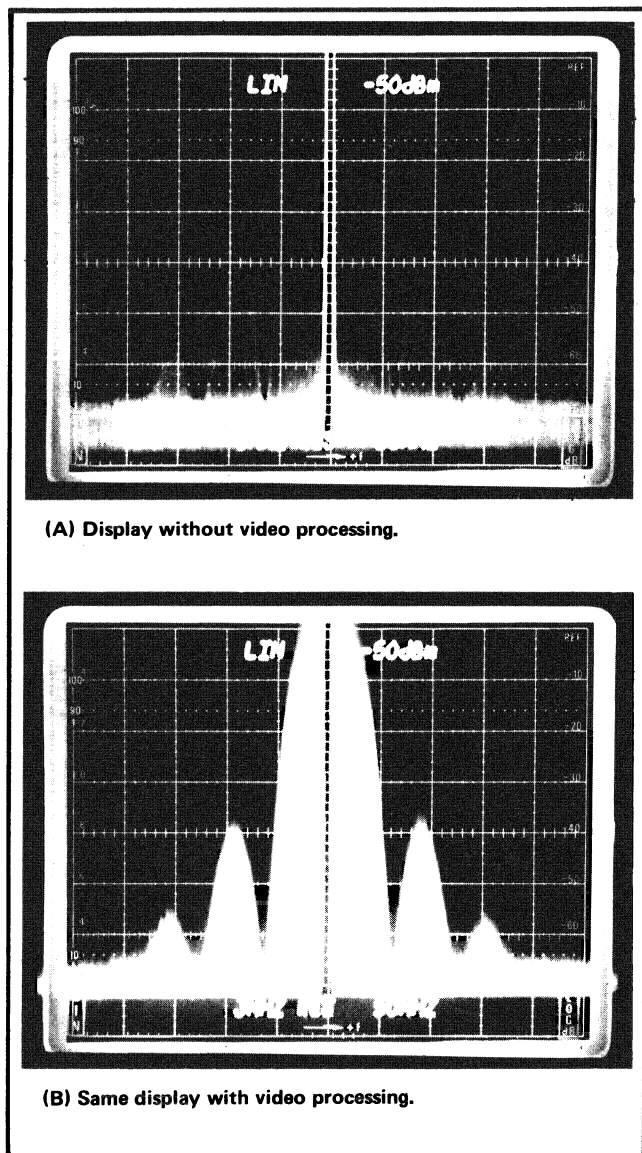

Fig. 3-8. Typical display of a pulsed RF spectrum that illustrates the effect of the VIDEO PROCESSOR.
e. Adjust the oscilloscope Intensity and the 7L12 BASE LINE CLIPPER controls until the pulsed spectrum, about the 0 Hz response, can be observed (see Fig. 3-8). It may be necessary to adjust the output of the pulse generator to approximately 0.1 V; however, do not exceed 1 V peak.